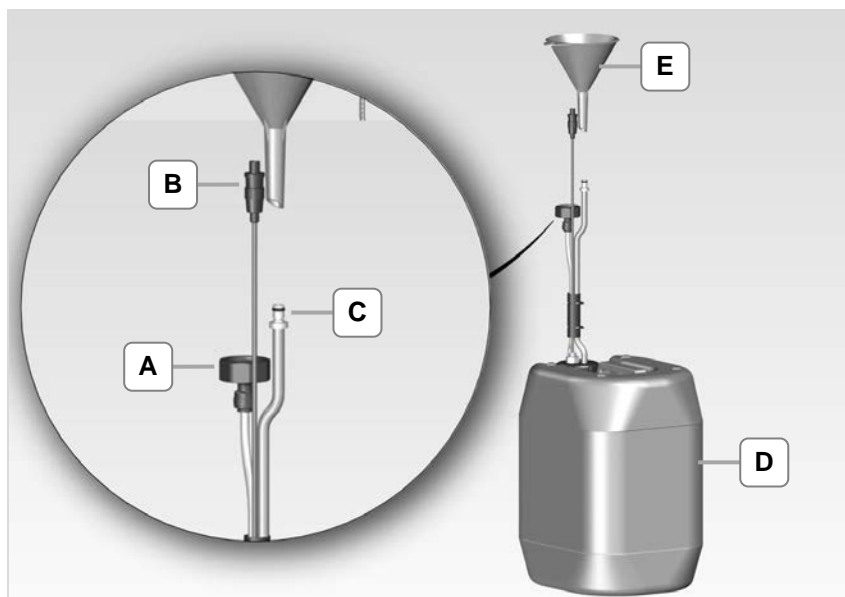
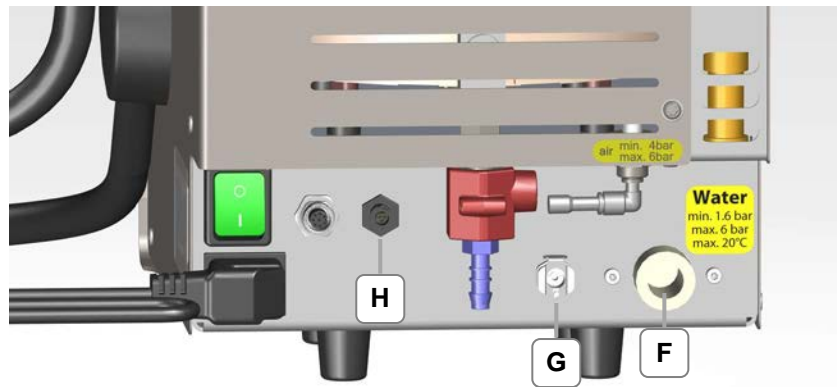
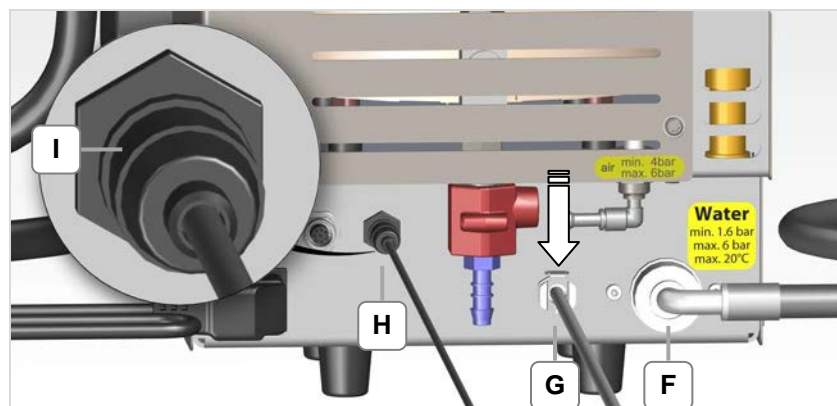
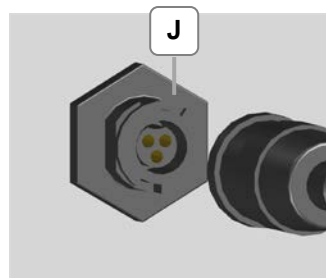

Figure 4.5.1: Canister with accessories
Figure 4.5.2: Connections for the canister (rear side of the device)
Figure 4.5.3: Connections for the canister connected
Figure 4.5.4: Plug alignment (J)
1. Screw on the screwed thread (Figure 4.5.1-A) of the water hose onto the water connection of the device (Figure 4.5.2-F). Inspect whether the seal is positioned correctly in the screwed thread (Figure 4.5.1-A).
2. Connect the cable connector (Figure 4.5.1-B) for the fill level monitoring to the connection (Figure 4.5.2-H) and turn the front cap (Figure 4.5.3-I) until it locks. Observe the plug direction (Fig 4.5.4-J).
3. Insert the ventilation hose (Figure 4.5.1-C) into the connector (Figure 4.5.2-G).
<div data-bbox="576 1682 667 1771" data-label="Image"> </div> <div data-bbox="700 1601 1394 1666" data-label="Section-Header"> <p>Inspect the secure fixing of the water connection for the canister!</p> </div> <div data-bbox="700 1675 1426 1915" data-label="List-Group"> <ul style="list-style-type: none"> <li>• Maintain a proper and secure attachment of the connections.</li> <li>• Inspect the connections (Figure 4.4.3-E + F) for leak tightness and function.</li> <li>• Ensure when connecting the ventilation hose that the locking lever (Fig 4.5.3-G) points downwards in the direction of the arrow!</li> </ul> </div>